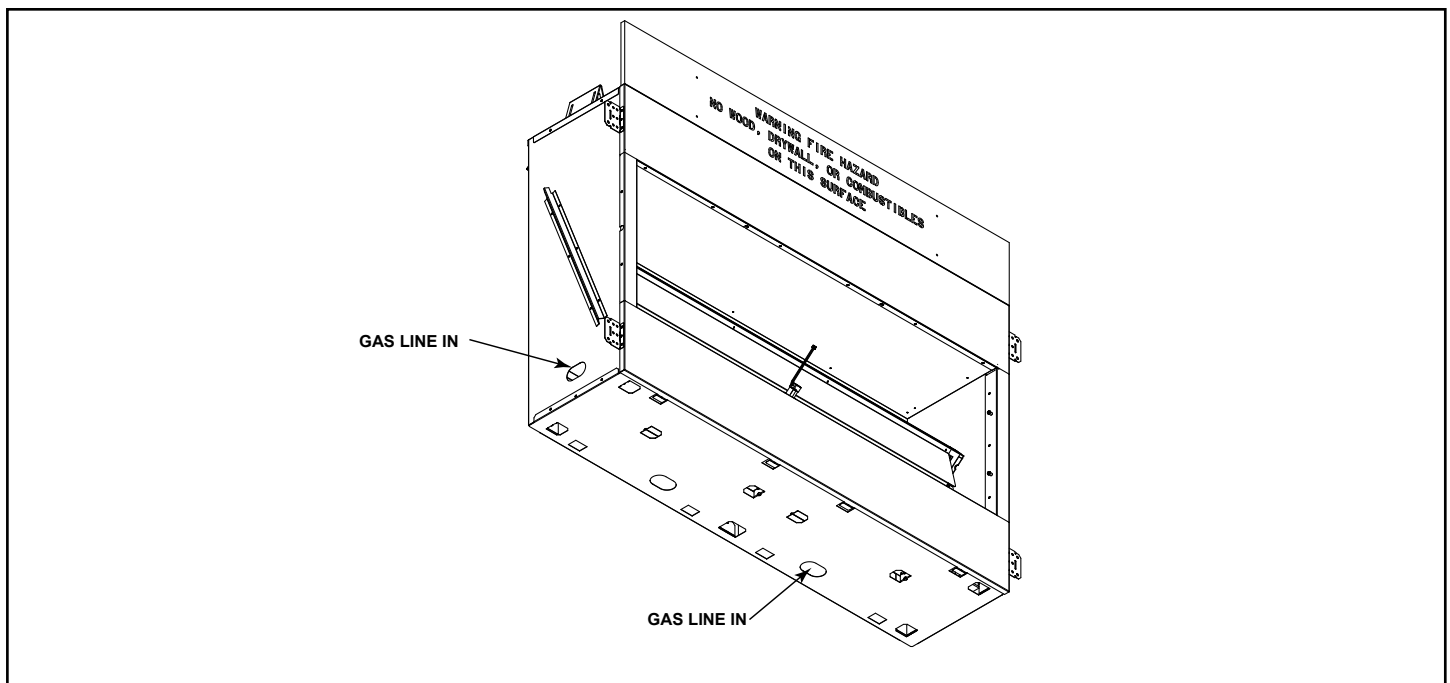

Figure 5.3 - Gas Line In
A manual shutoff valve must be installed upstream of the appliance. Union tee and plugged  $\frac{1}{8}$ " NPT pressure tapping point should be installed upstream of the appliance. Figure 5.3
A sediment trap should be installed upstream to prevent moisture and contaminants from passing through the pipe to appliance controls and burners. Failure to do so could prevent the appliance from operating reliably. Figure 5.3
- Gas line may be run through the left side or right bottom of the appliance. See Figure 5.3.